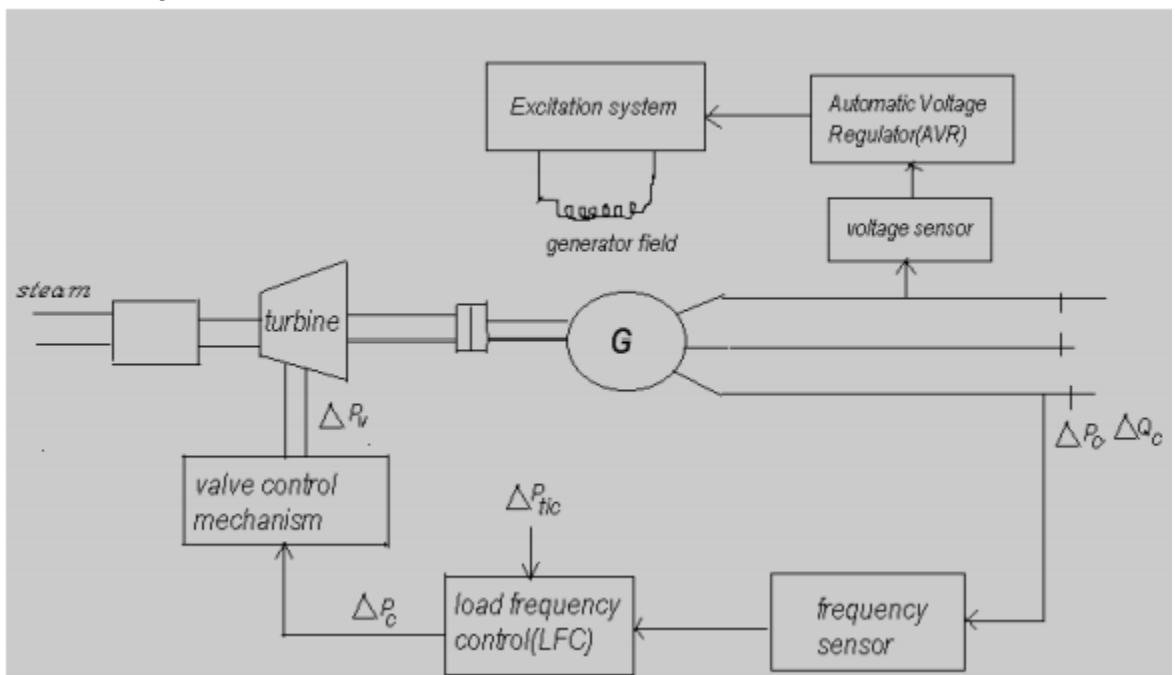

Figure 13 Combined ALFC and AVR
- The schematic diagram of Combined ALFC and AVR loops as shown in below Figure 13